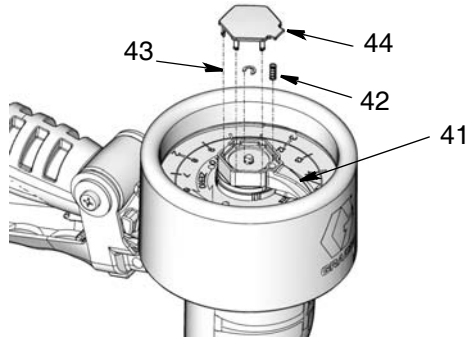

FIG. 14
2. Remove the cover (44), small retaining ring (43), pointer pin (41) and pointer spring (42) (FIG. 14).